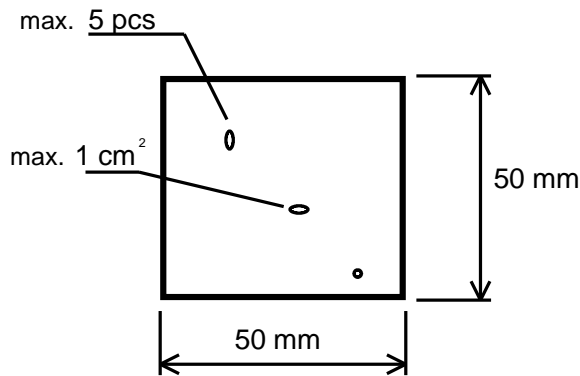

fig. 3.1.1
3.1.1 The maximum acceptable number of single defects as described below (fig. 3.1.1) must not exceed 5 per 25 cm²